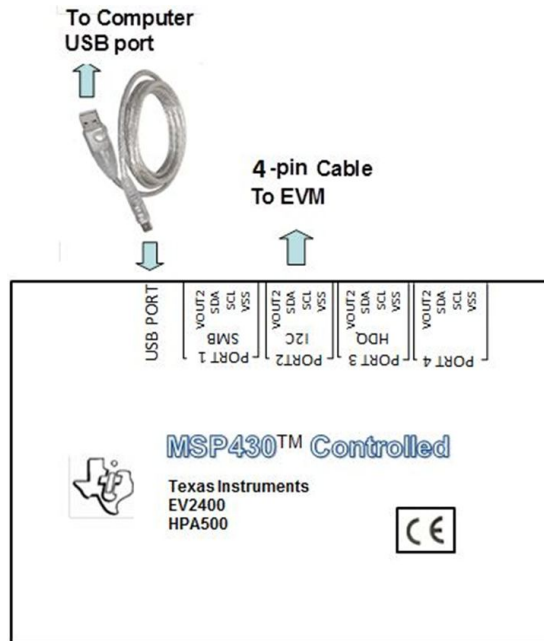

Figure 4. EV2400 Interface Box Connection
2. Connect the EV2400 interface board to the EVM (as shown in Figure 4) <http://www.ti.com/tool/EV2400>.